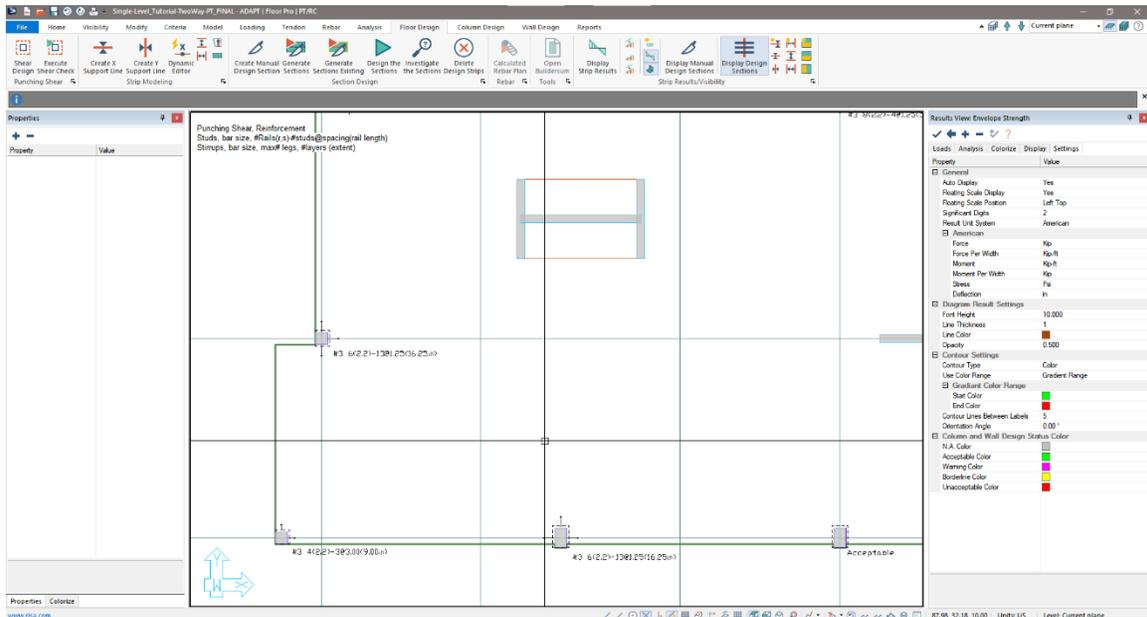

FIGURE 8-77
- Zooming in on the columns that have a need for reinforcement we can now see the punching shear reinforcement called out on plan as shown in **FIGURE 8-77**.